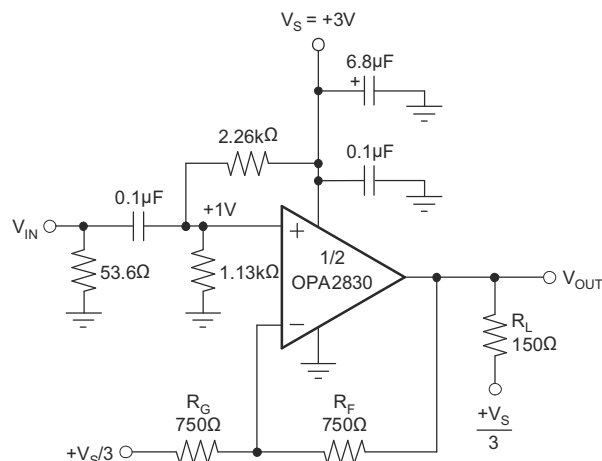
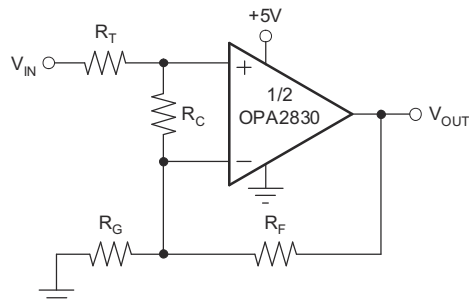

Figure 8-2. AC-Coupled, G = +2, 3V Single-Supply Specification and Test Circuit
Figure 8-8. Compensated Noninverting Amplifier
at $T_A = 25^\circ C$, $G = +2V/V$, and $R_L = 150\Omega$ to $V_S/3$ (unless otherwise noted); see also Figure 8-2
at $T_A = 25^\circ\text{C}$, $G = +2V/V$, and $R_L = 150\Omega$ to $V_S/3$ (unless otherwise noted); see also Figure 8-2
Figure 8-2 shows the ac-coupled, gain of +2 configuration used for the 3V *Specifications* and *Typical Characteristics*. Voltage swings reported in the *Electrical Characteristics* are taken directly at the input and output pins. For the circuit of Figure 8-2, the total effective load on the output at high frequencies is 150Ω || 1500Ω. The 1.13kΩ and 2.26kΩ resistors at the noninverting input provide the common-mode bias voltage. The parallel combination equals the dc resistance at the inverting input (R_F), reducing the dc output offset due to input bias current.
Figure 8-8 shows a noninverting amplifier that reduces peaking at low gains. The resistor R_C compensates the OPA2830 to have higher Noise Gain (NG), which reduces the ac response peaking (typically 4dB at $G = +1$ without R_C) without changing the dc gain. V_{IN} needs to be a low impedance source, such as an op amp.
Frequency response in a gain of +2 can be modified to achieve exceptional flatness simply by increasing the noise gain to 3. One method, without affecting the +2 signal gain, is to add a 2.55kΩ resistor across the two inputs (see Figure 8-8). A similar technique can be used to reduce peaking in unity-gain (voltage follower) applications. For example, by using a 750Ω feedback resistor along with a 750Ω resistor across the two op amp inputs, the voltage follower response is similar to the gain of +2 response of Figure 8-2. Further reducing the value of the resistor across the op amp inputs, further dampen the frequency response due to increased noise gain. The OPA2830 exhibits minimal bandwidth reduction going to single-supply (5V) operation as compared with ±5V. This minimal reduction is because the internal bias control circuitry retains nearly constant quiescent current as the total supply voltage between the supply pins is changed.
The criterion for setting this R_S resistor is a maximum bandwidth, flat frequency response at the load. For a gain of +2, the frequency response at the output pin is already slightly peaked without the capacitive load, requiring relatively high values of R_S to flatten the response at the load. Increasing the noise gain also reduces the peaking (see Figure 8-8).